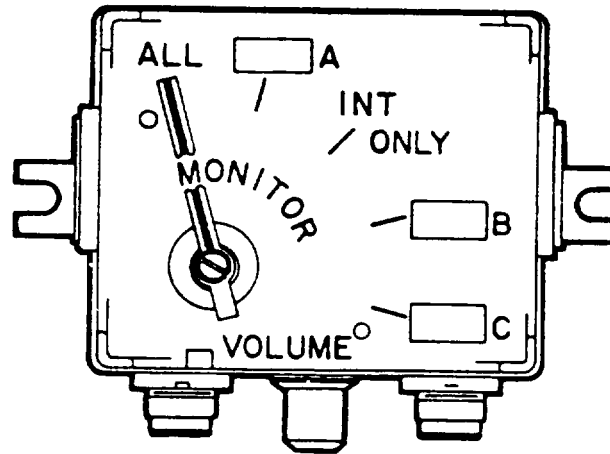

Figure 11-2. Crew Members Control Box
b. Normal Intercom Operation with Crew Members Control Box. See figure 11-2.